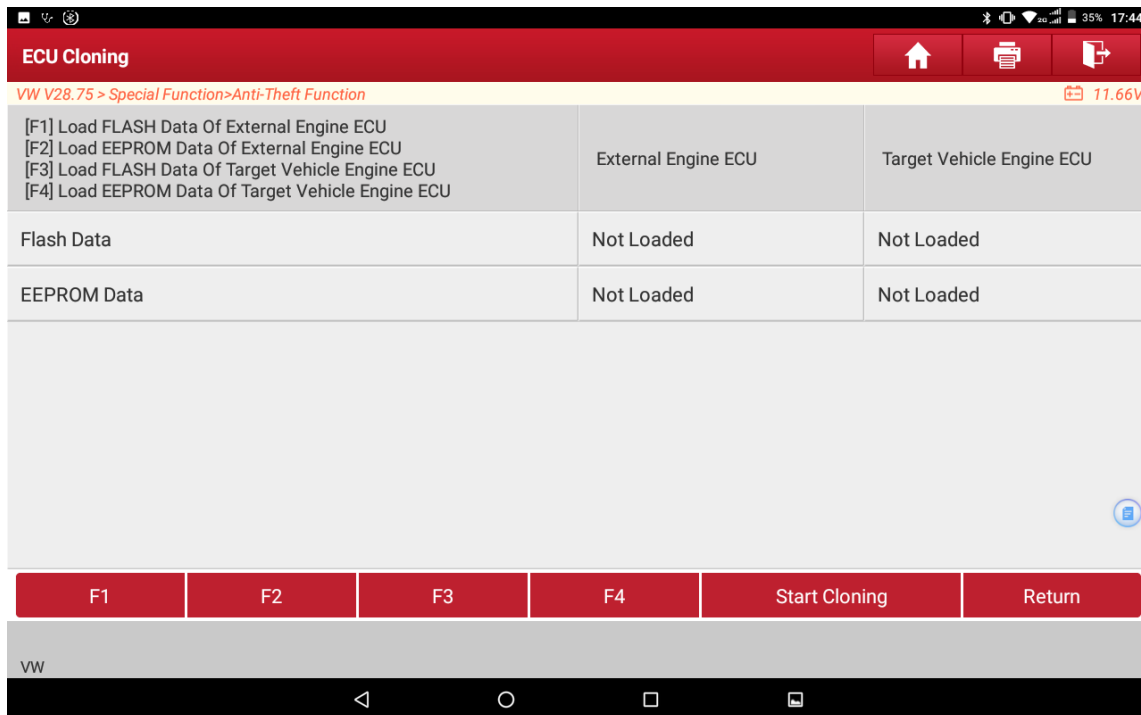

Figure 10
- Click **【ECU Cloning】** -> **【Only Clone Anti-theft Data】** , click the F1, F2, F3, F4 buttons respectively to load FLASH data of external engine ECU, EEPROM data of external engine ECU, FLASH data of target vehicle engine ECU and EEPROM data of target vehicle engine ECU, as shown in Figure 10;